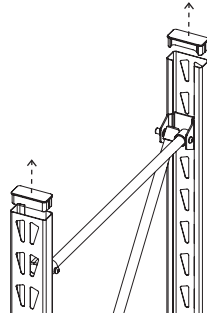
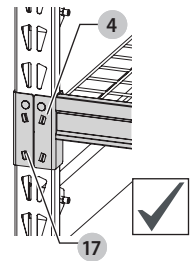

Fig. R.1
Fig. R.3
! WARNING: The seam that joins the top and bottom racks must be fully covered by either two (2) stacking brackets, or by a stacking bracket and a crossbeam (Fig. R.1, R.2). Failure to completely cover the seam with fully seated stacking brackets and crossbeams could cause the rack to collapse when loaded, causing serious injury or death. (Fig. R.3, R.4, R.5, R.6)